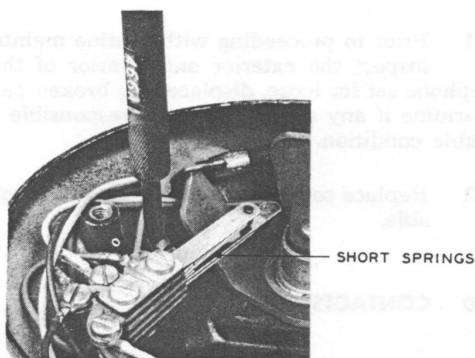

FIG. 4B—SHORT SPRING CONTACT ADJUSTMENT
- 3.08** On short springs, the 466A tool should be applied close to the spring pile-up, bending slightly (see Fig. 4B).